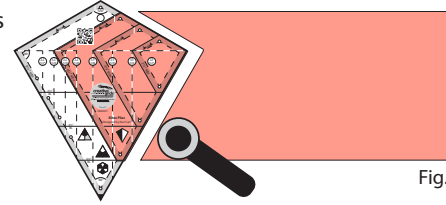

Fig. 4
4. Flip the fabric over - and rotate the ruler 180°. Match the cut edge of the fabric with the left side of the desired kite size - in this case 6½". Cut along the right side to create the kite shape. Repeat steps 3 and 4 until the desired number of kite shapes are cut. Fig. 4